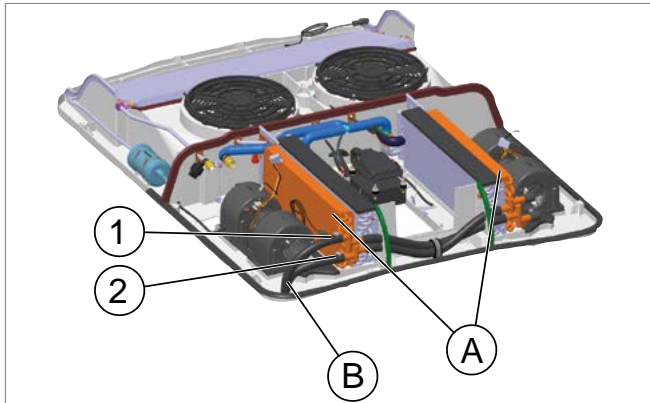

Fig. 30: Heating kit
- Place the heating elements between the radial fans and the evaporators. Fig. 30 Pos A